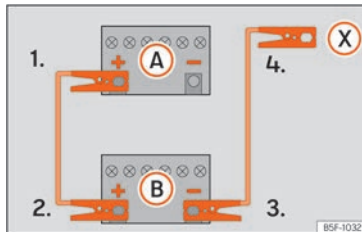

Fig. 82 Diagram of connections for vehicles without Start Stop system
2. Connect one end of the *red* jump lead to the positive (+) terminal of the vehicle with the flat battery (A) »» Fig. 82.
3. Connect the other end of the *red* jump lead to the positive terminal (+) in the vehicle providing assistance (B).
- 4a. *In vehicles without a Start-Stop system:* connect one end of the *black* jump lead to the negative terminal (-) of the vehicle providing the current (B) »» Fig. 82.